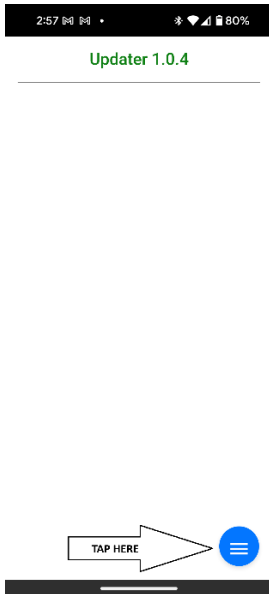

Figure 15
4. Expand the Updater app menu by tapping on the button with 3 horizontal bars **Figure 15**.